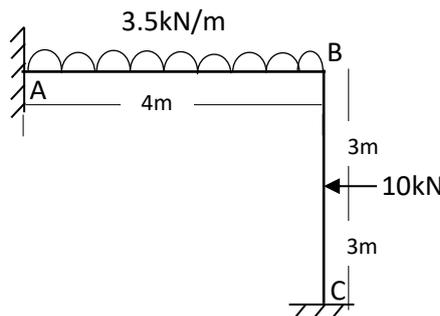

Fig.4
- 15 a) Analyse the frame shown in Fig.4 using slope- deflection method. EI is constant. (14)